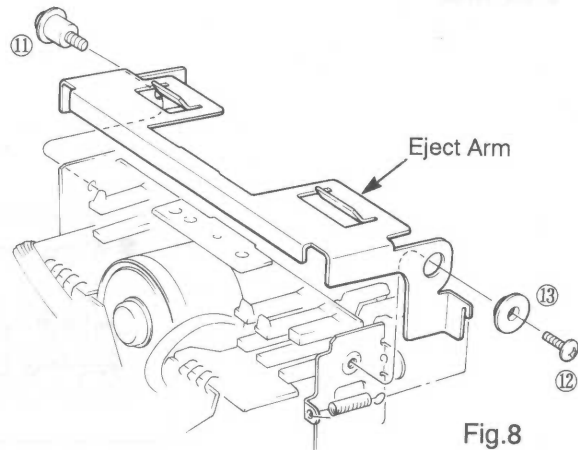

Fig.8
- a. Remove 1 screw ( ⑪ ) and 1 screw ( ⑫ ), 1 spacer ( ⑬ ) in Fig.8, then remove the Eject Arm.